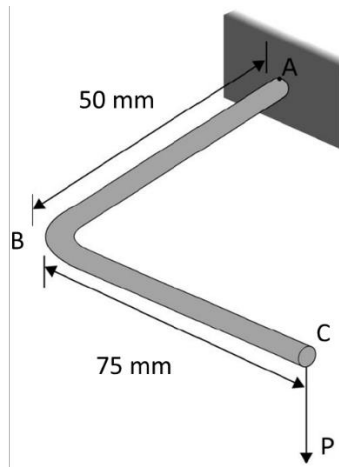

Fig. Q19
19. The 5mm diameter angled bar, ABC, shown in Fig. Q19 is subjected to a load, P , of 20 N. What is the maximum in-plane shear stress of a 2D plane stress element located on the top surface of the bar at point A?